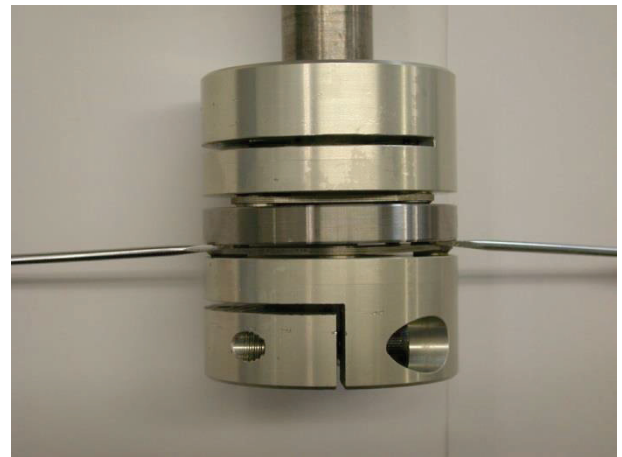

Fig. 4
For disk pack (2) disassembly, use suitable tools, e.g. screwdrivers on the right and left side of the collar bushing (2a) (Fig. 4).